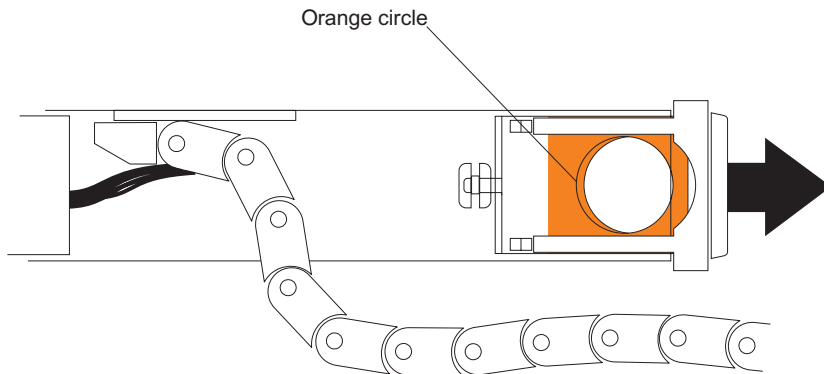

Figure 97. Horizontal mounting bracket that connects to the drive drawer
- b. Disconnect the right cable chain mounting bracket from the drive drawer. Hold the orange handle (See Figure 97), and pull the mounting bracket out of the drive enclosure.